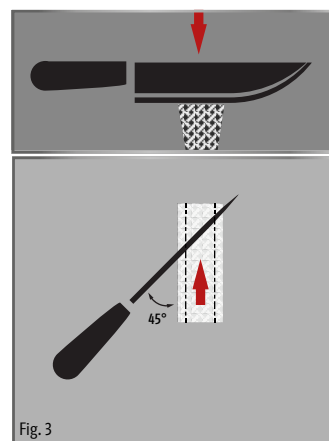

Fig. 3
- Cut the end of the packing in the right angle shown in fig. 3